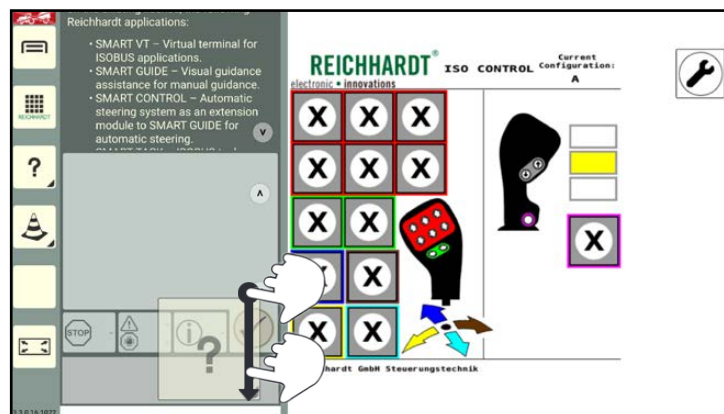

Fig. 84: Moving and positioning an application in a new small window
2. Position the application above the first, underneath the last, or between any two small windows (see Fig. 84). In the same way as adding new small windows.